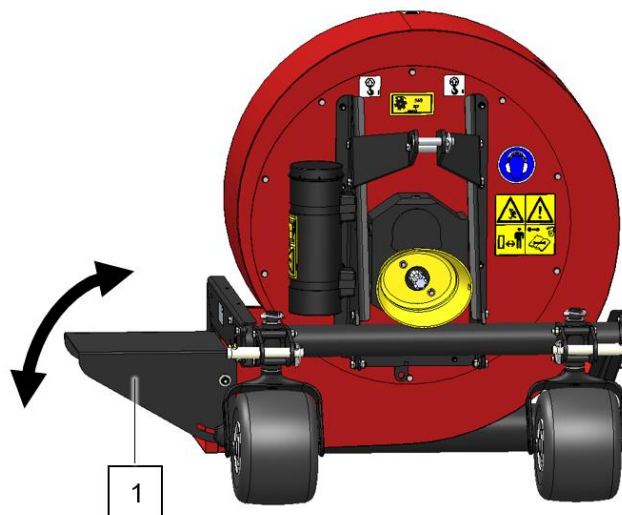

Fig. 9
Instead of the reverse spout, the supplied outlet flap can also be used ((1) Fig. 9). Unlike the reverse spout, airflow is now only possible on one side of the machine. However, the airflow in the vertical plane can be regulated by adjusting the outlet flap.